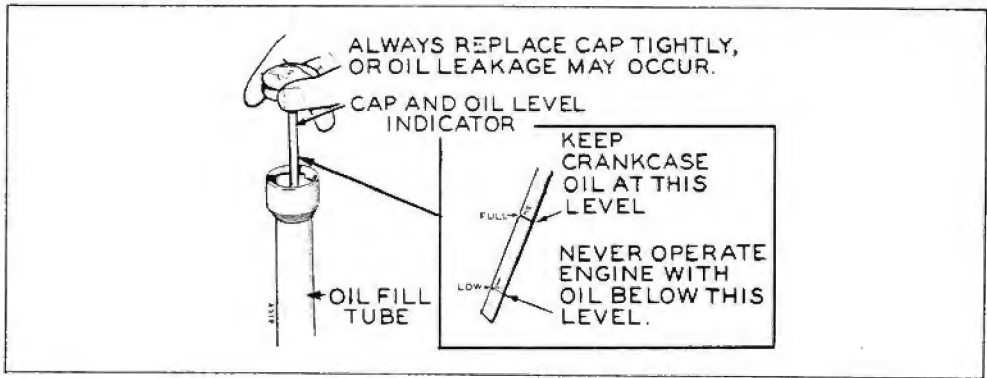

Fig. 9 Crankcase Oil Level
**CRANKCASE OIL.** - Table I gives the oil capacity. Be sure the plant is sitting level when filling. Fill to "F" (full) mark on the indicator, figure 9. Use a good heavy duty detergent oil classified for service "DG" or "MS/DG". Service "DS" oil is satisfactory, but is higher in cost. Use a single viscosity oil. Oil consumption is usually greater with multi-viscosity "all season" oil such as 10W-30. Use the proper SAE number oil for the compartment temperature conditions. Do not mix brands nor grades. Always reinstall indicator **AIR TIGHT.**
- C. - **OIL LEVEL.** Keep level to the F (full) mark on the indicator, figure 9. When adding, use the same brand as in crankcase.